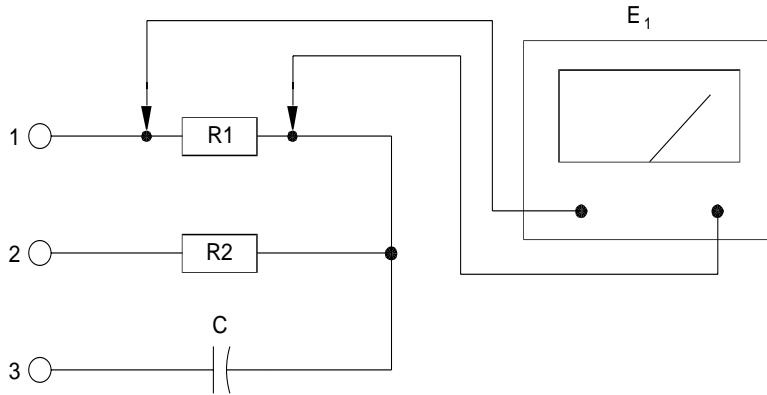

Figure 2. Circuit used to test the phase sequence of the wall outlets in the laboratory.
4. The wall outlets in your laboratory must be connected so that they all have the same phase sequence. One easy way to test the phase sequence is to use a Lab-Volt Resistive Load module (model 8509) and a Capacitive Load module (model 8511). The modules are connected to the Power Supply terminals 1, 2, and 3, as shown in Figure 2.
**Table 1. Value of the resistive and capacitive components used in Figure 2.**